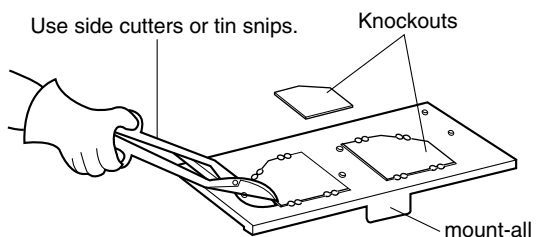

Figure 14
5. Use side cutters or tin snips to cut and remove knockouts from mount-all. Be careful not to distort the plate. See figure 14.